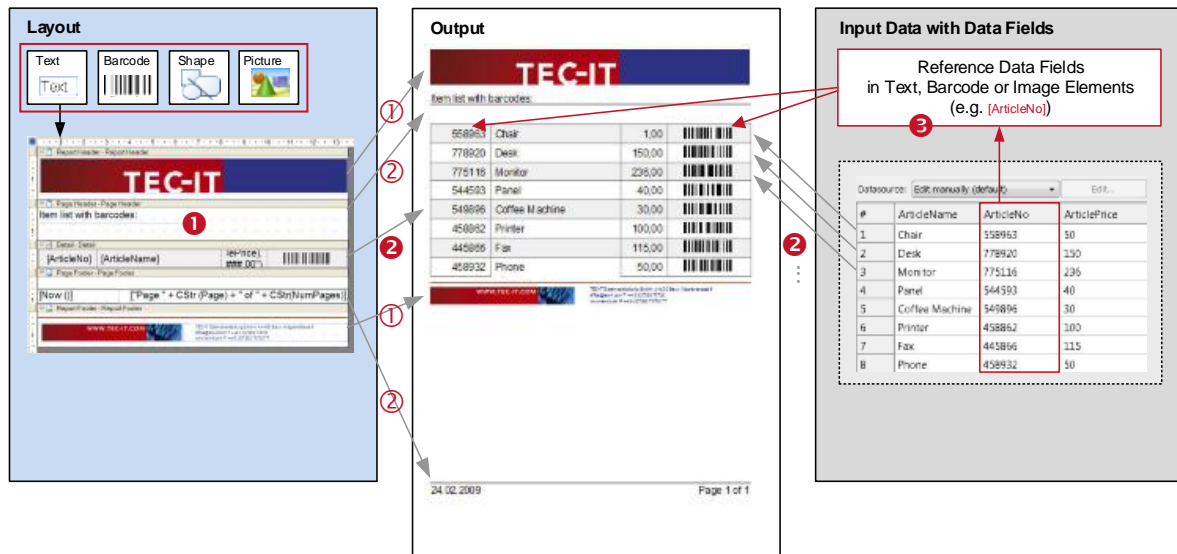

Figure 20: Rendering the Layout
Each print-out is based on the form layout. The form layout uses different design elements like text elements, barcode elements, shapes and pictures which are placed on bands (see Figure 20, ❶).
When generating the output, each of the bands will be rendered repeatedly: Usually a *detail band* is rendered for each single record (see Figure 20, ❷) of the data source. *Page header* and *page footer* are rendered at the top respectively bottom of each page automatically (see Figure 20, ❸).
The *report header* and the *report footer* are printed at the beginning and at the end of the report (see Figure 20, ①). In this way the output is assembled.
For providing the content you have various possibilities: Text, barcode and image elements can be filled with fixed data. Aside from that they can also reference the fields in a data source. Such references will be resolved during print time and the actual data is inserted (see Figure 20, ③). However, not only the fields in the data source may be used to provide dynamic data. **TFORMer** also provides system fields (e.g., the current page number) and functions (e.g., the current date), and you can perform your own arbitrary computations. Besides that, you can easily create your own serial numbers and use them in the layout.